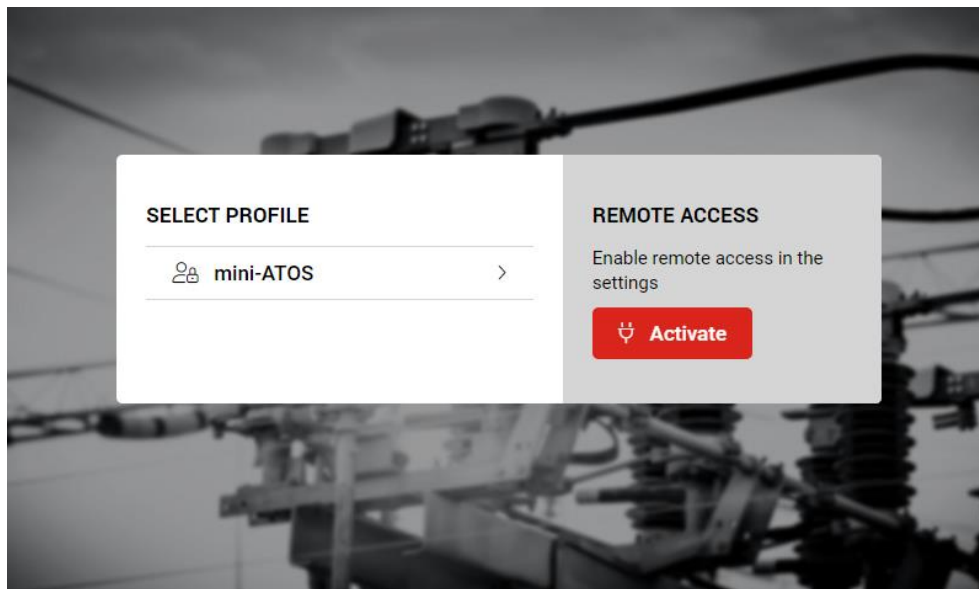

Figure 98: Select Profile page on the mini-ATOS display
- 3- From the home page or the main menu, tap the logout icon  to see the select profile page like Figure 98